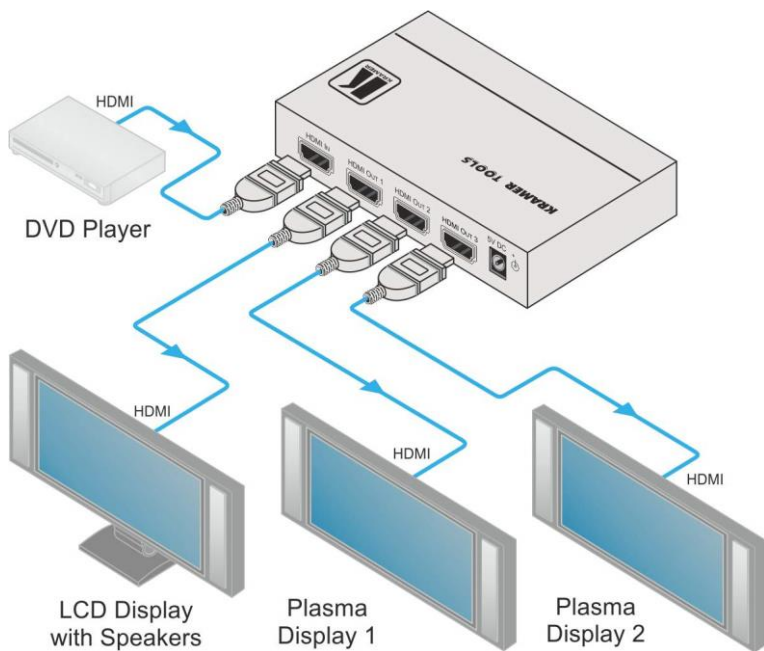

Figure 2: Connecting the VM-3UHD 1:3 HDMI DA
Connect the **VM-3UHD** as illustrated in the example in Figure 2:
3. Connect the 5V DC power adapter to the power socket unit and then connect the adapter to the mains electricity (not shown in Figure 2).